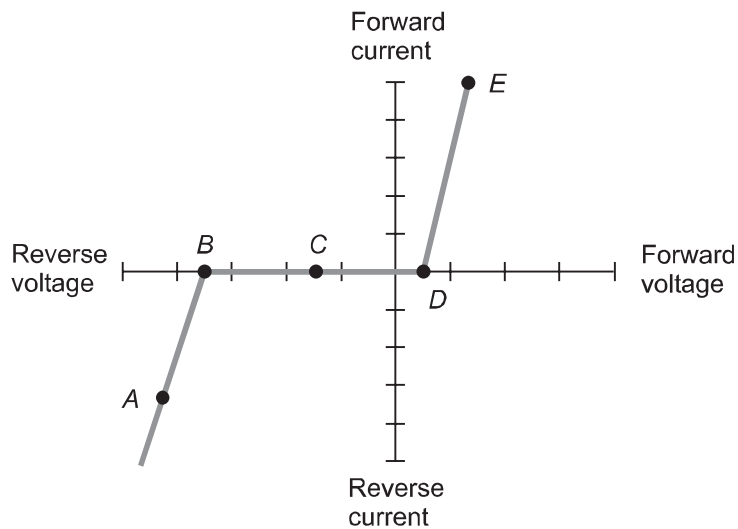

Fig. Test2-3. Illustration for Part Two Test Questions 25 through 29.
25. What does Fig. Test2-3 most likely represent?
26. Which of the points in Fig. Test2-3 represents the forward breakover point?
27. Which of the points in Fig. Test2-3 show a condition of reverse bias?
28. In the situation of Fig. Test2-3, at which point(s) does the device fail to conduct?
29. Which of the points in Fig. Test2-3 represents conduction as a result of avalanche effect?